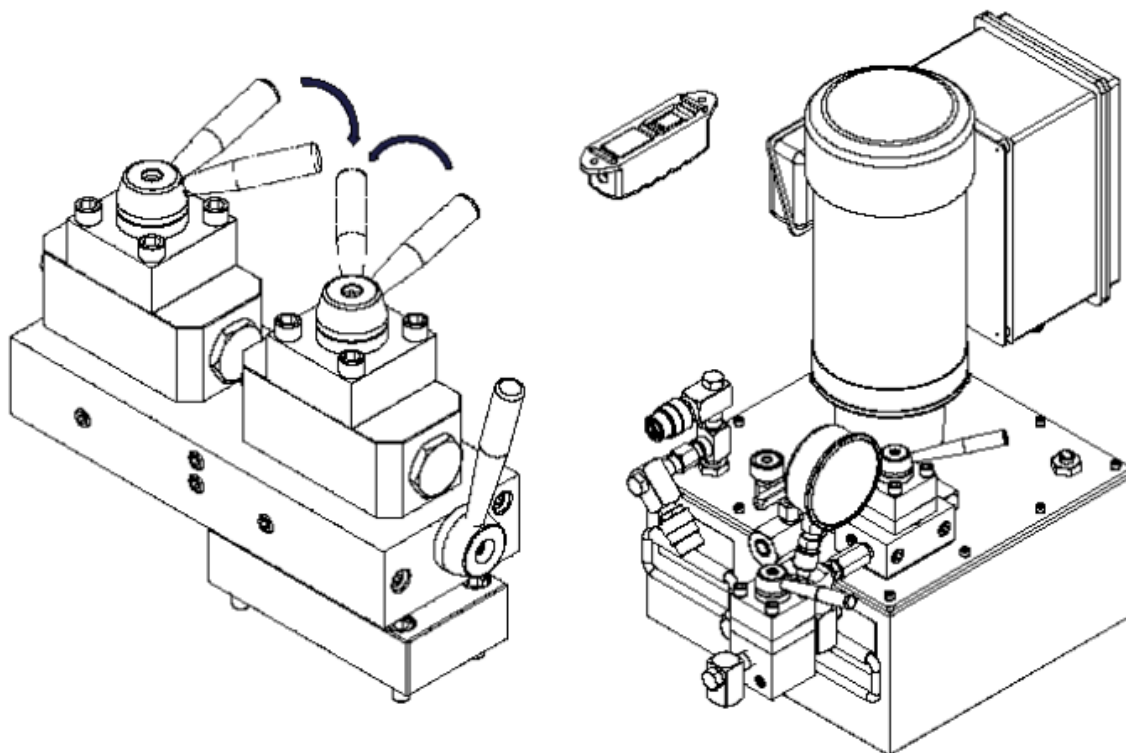
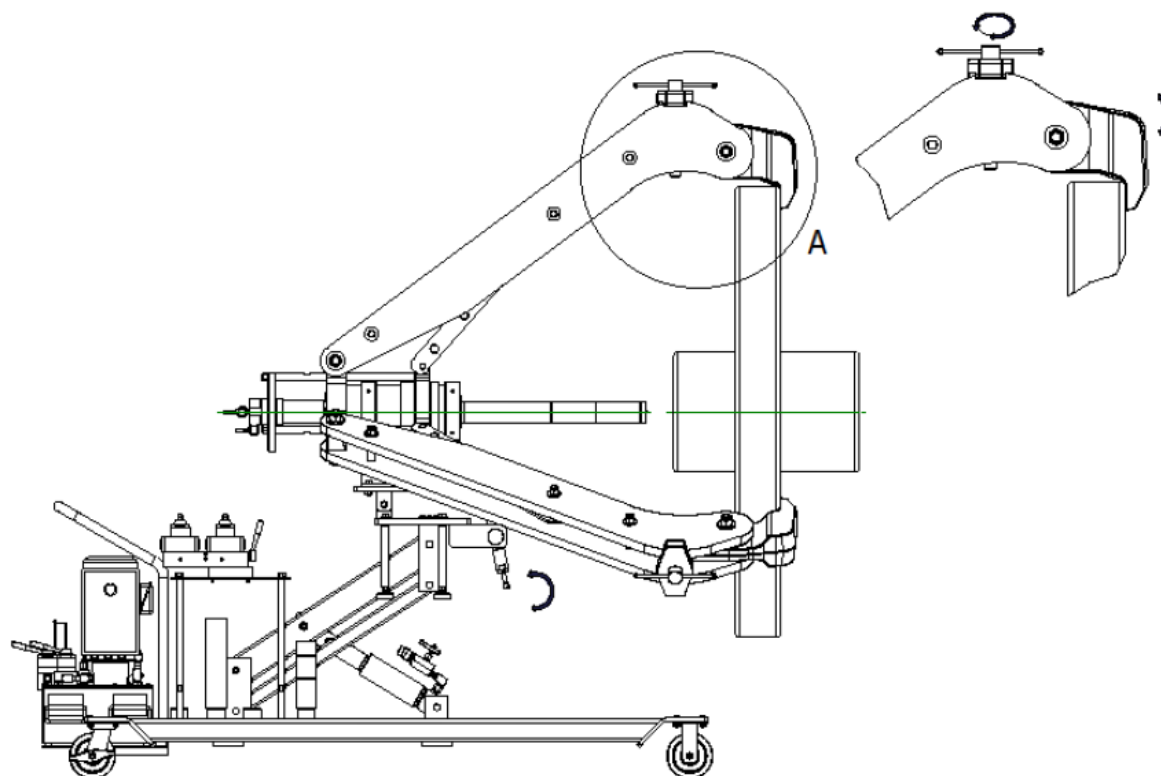

Figure 4-1 – Closing the Puller Jaws
Figure 4-2 – Fully Engaged Jaws
- 5.3.3 Switch the control panel as shown in Figure 4-1 to tightly close the jaws around the part to be pulled and ensure the jaws are fully engaged and secure (see Figure 4-2).